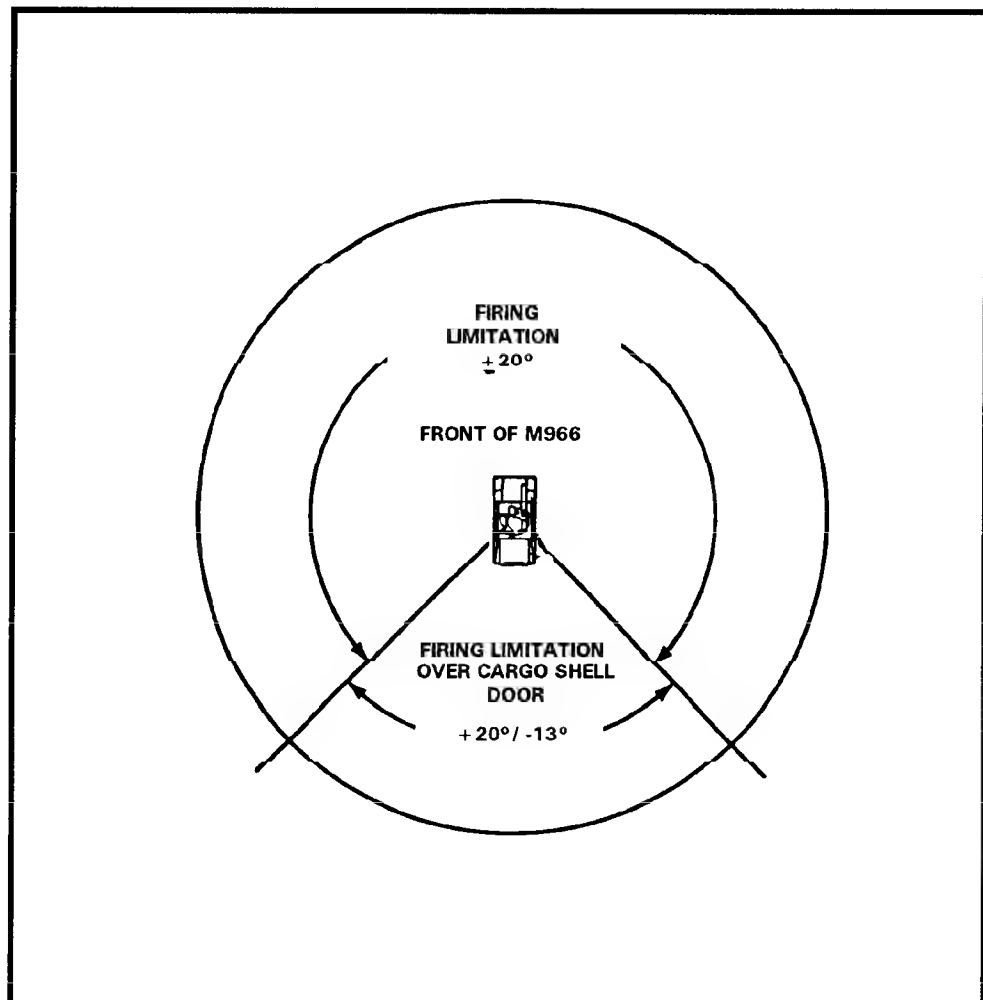

Figure A 2. M966 mounted TOW firing angle limitations.
b. The firing angle limitations of the TOW carriers areas shown in Figures A-2 and A-3, page A-5.